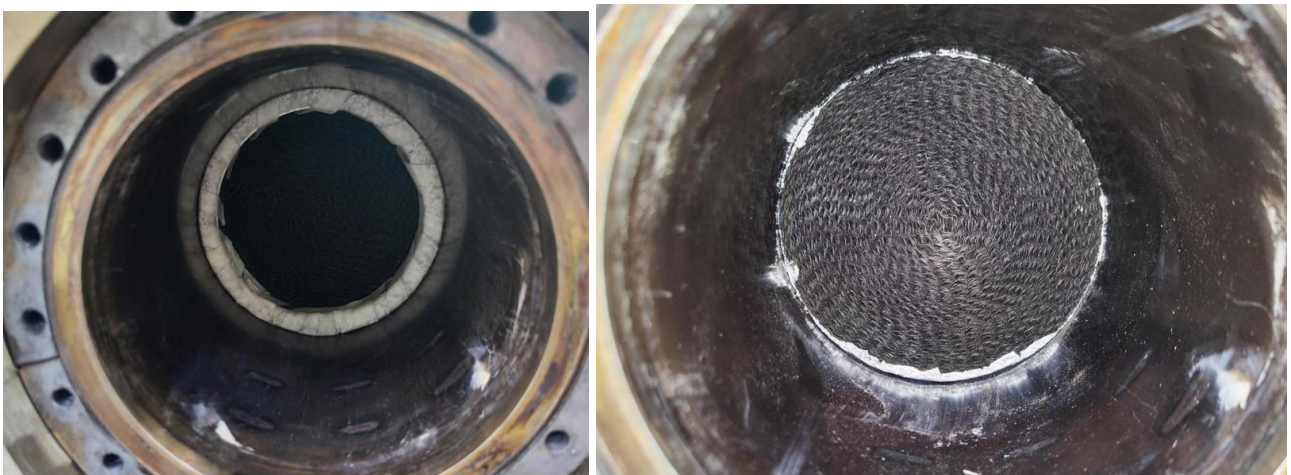

Fig 12
12. Remove inside Ring (See Fig 12)